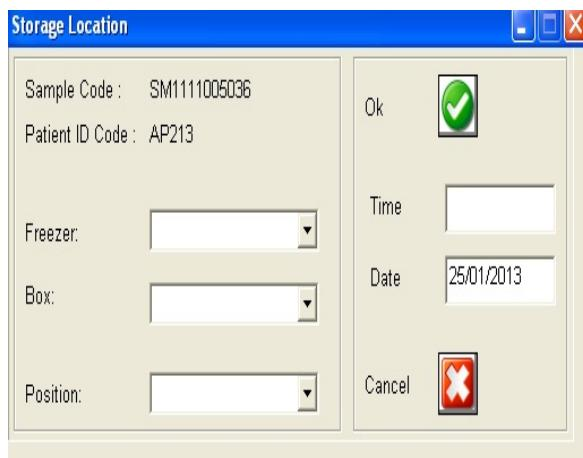

Figure 9: Storage Location
2. Highlight the appropriate PAXgene™ tube for the Patient ID and select the '**Store Location**' button. This will bring up the '**Store Location**' screen (Figure 9).